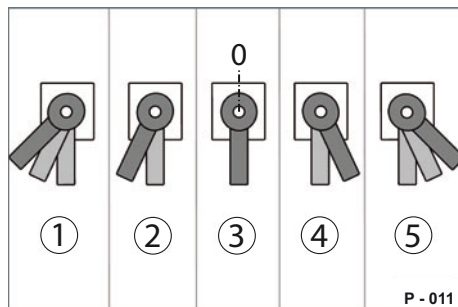

Fig. 45 Turning lever position
- Press the turning lever inwards and turn it anti-clockwise towards the "Raise" icon (Fig. 45/5).
- When the height has been achieved, turn the turning lever back one stage into the "Stop" position (Fig. 45/4).
► Press the turning lever inwards and turn it clockwise towards the "Lower" icon (Fig. 45/1).
► When the height has been achieved, turn the turning lever back one stage into the "Stop" position (Fig. 45/2).